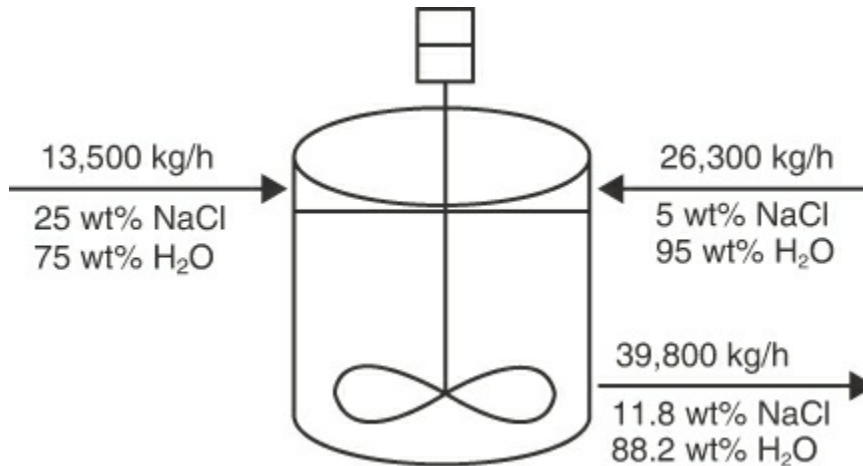

Figure P3.2.19
****3.2.19** Mixers can be used to mix streams with different compositions to produce a product stream with an intermediate composition. Figure P3.2.19 shows a diagram of such a mixing process. Evaluate the closure of the overall material balance and the component material balances for this process. Closure means how closely the inputs agree with the outputs for a steady-state process.